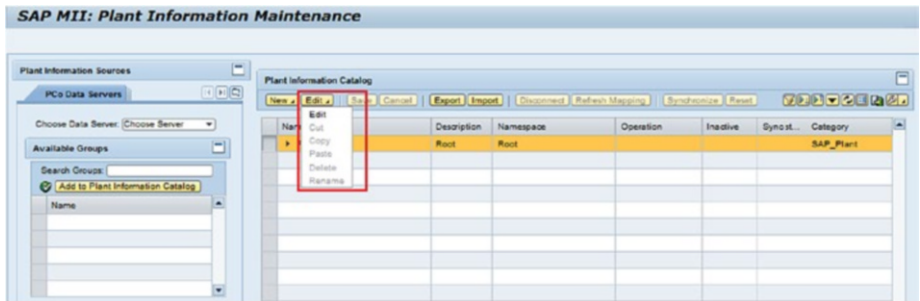

Figure 7-122. Editing the PIC
- *Edit*: Upon clicking this button, all edit functionalities like Edit, Cut, Copy, Paste, and Delete will be available (see Figure 7-122).